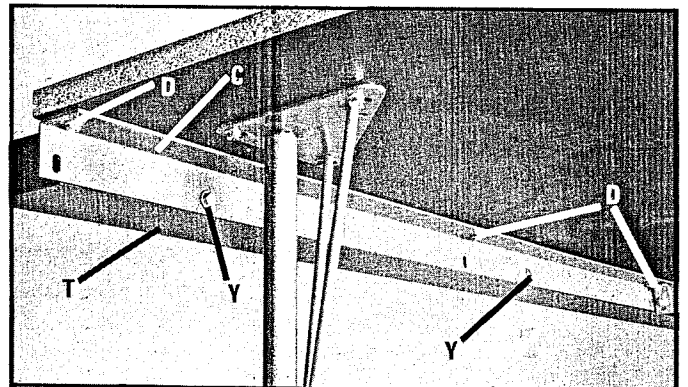
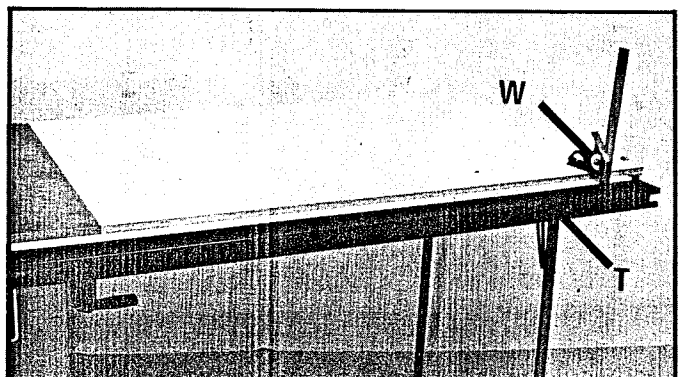

Fig. 33
Fig. 34
15. Move front table support (C) Fig. 33, until it contacts back of guide rail (T) and tighten the three screws (D).
16. Using the two 1/4-20 x 5/8" screws and 9/32" washers (Y), Fig. 33, fasten the guide rail (T) to the front table support (C), as shown, NOTE: Before tightening two screws (Y) Fig. 33, adjust guide rail (T) Fig. 34, parallel to table surface using an adjustable square (W) in the same manner as Step 14.